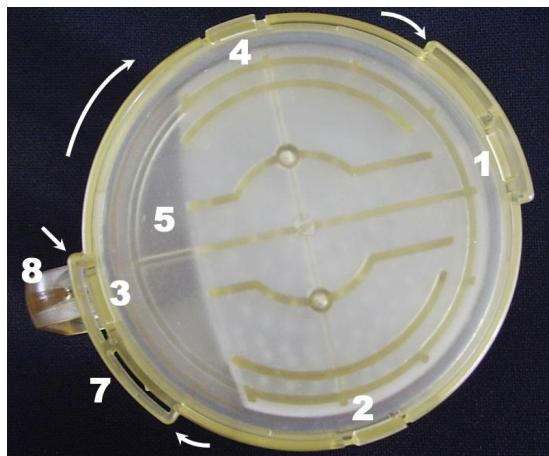

Figure 10. Before Installation
3) Figure 8 and figure 10 shows the state when all slots haven been blocked completely. Rotate part "7" in figure 10 clockwise and check if part "2" is at the location showed in figure 9. You can hear "click" which shows the slot has been locked. At this time, you can not rotate part "7" clockwise any more.